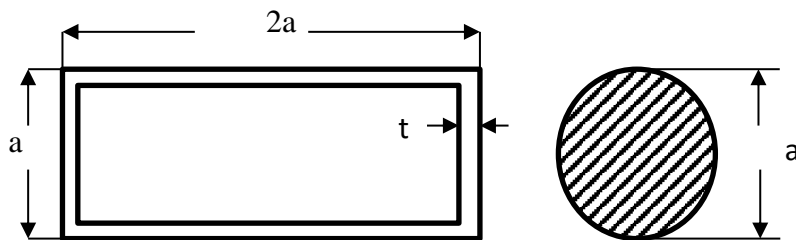

Fig. 4
- 13 a) Why closed sections are having better torsional rigidity than open sections, briefly explain? (4)
- b) Find an expression for the maximum shear stress induced in an elliptical bar under torsion? (6)
- 14 a) A thin walled box section $2a \times a \times t$ is to be compared with a solid circular section having diameter 'a' shown below in Fig.4. Find the thickness 't' so that both sections have: - (8)